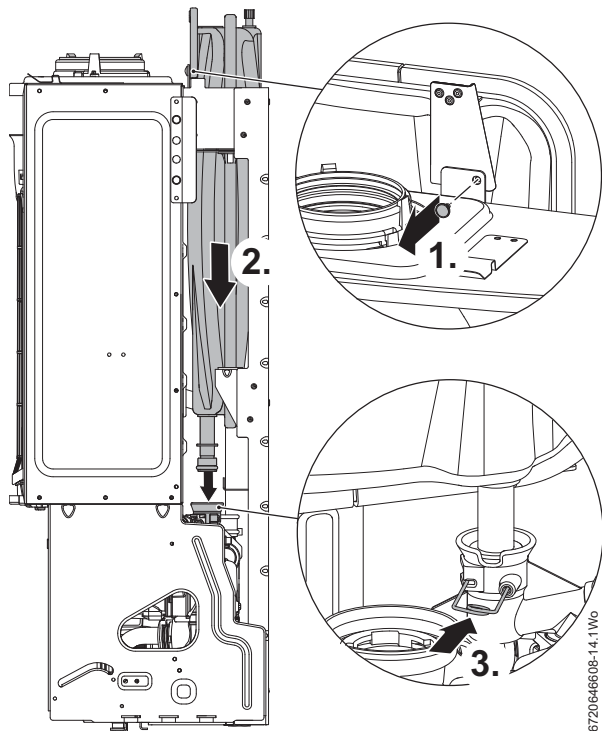

Fig. 34 Expansion vessel connection
1. Release the expansion vessel from the retaining bracket, see fig. 34.
2. Ensure that the wire retaining clip on the pump manifold is fully withdrawn, but do not remove, before inserting the expansion vessel pipe into pump manifold, see fig. 34.